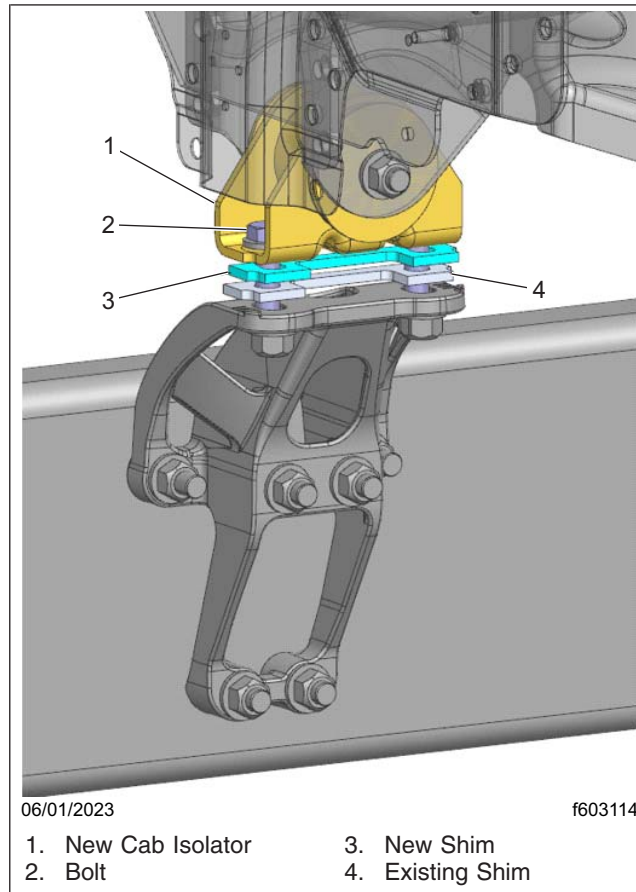

Fig. 5, Front Cab Isolator Assembly Installation with Shims
2. Attach the cab mount isolator to the bracket on the cab underbody with the isolator bolt, washers, and nut, inserting the bolt from the inboard side. See **Fig. 5**. This procedure applies to both the left-hand and right-hand side cab installations.